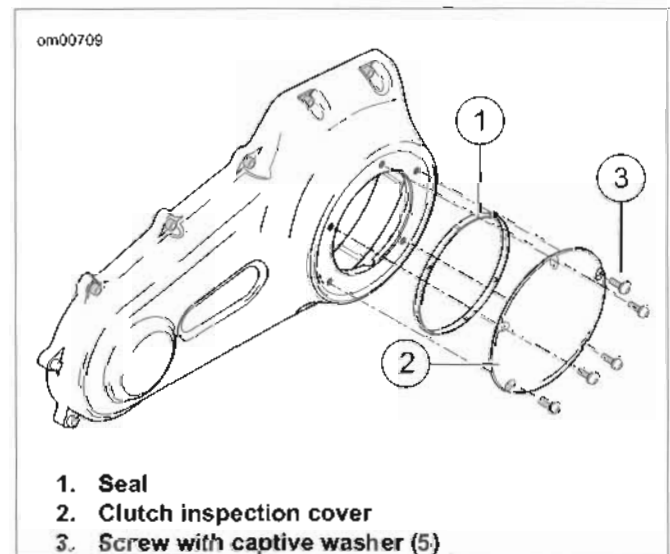
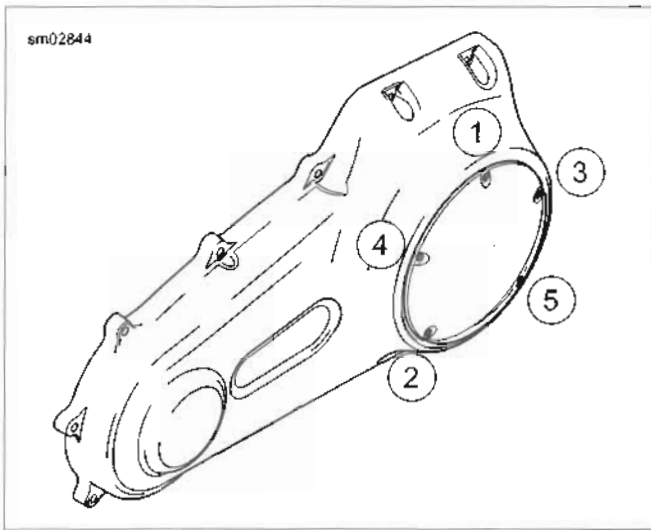

Figure 1-11. Clutch Cover
Figure 1-12. Clutch Cover Torque Sequence
7. See Figure 1-11. Remove screws and captive washers (3) and clutch inspection cover (2).
8. Remove seal (1). Wipe oil from groove in chaincase cover and mounting surface.
- b. See Figure 1-11. Position **new** seal (1) in groove in clutch inspection cover. Press each of the nubs on seal into the groove.
- c. Secure inspection cover with screws and captive washers (3).
- d. See Figure 1-12. Tighten in sequence shown to 84-108 in-lbs (9.5-12.2 Nm).